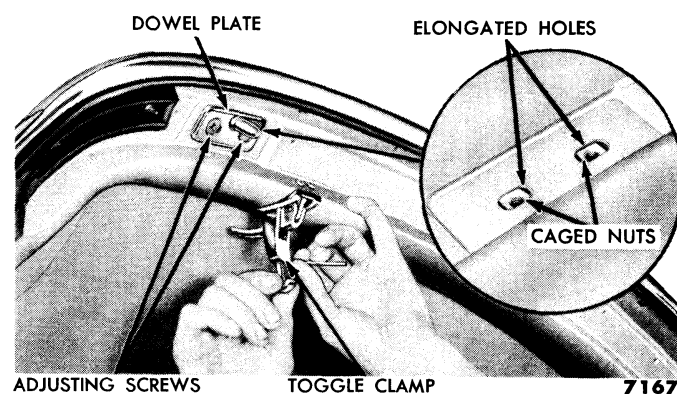

Fig. 19—Toggle Clamp and Dowel Plate Adjustments
(2) **TOGGLE CLAMP AND DOWEL PLATE ADJUSTMENT.** The toggle clamps are mounted on the top header (fig. 19). The hooks on the toggle clamps engage matching holes in the toggle clamp lock plates which are mounted in the windshield frame.
If adjustment is necessary, loosen the small set screw with an Allen wrench as shown in fig. 19. Lengthen or shorten the hook until the pressure of the header against the windshield frame is equal on both sides, and a good seal exists between header and windshield.
The lock dowels are integral with an adjustable plate and are mounted in the top header (fig. 19). Corresponding dowel guides are mounted in the windshield frame. Each dowel plate is adjustable to maintain the dowel in alignment with its respective guide. The dowel plate can be shifted forward, backward, or laterally because the plate retaining screws engage floating caged nuts in elongated holes (insert, fig. 19).